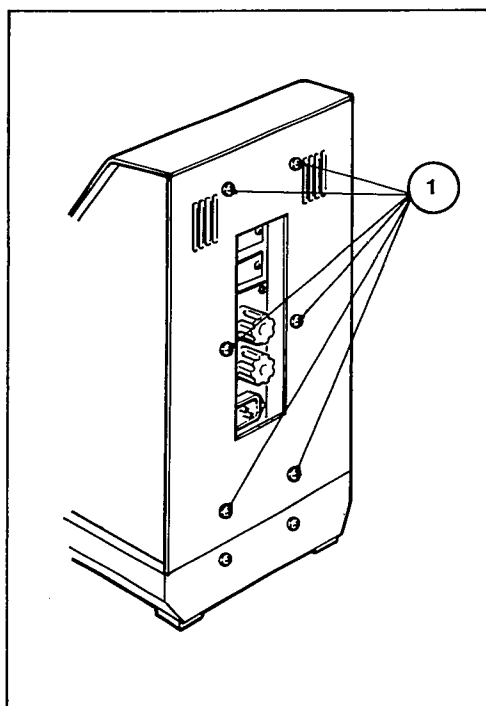

Figure 2.1 Rear Panel Retaining Screws
2. Remove the six rear panel retaining screws, item 1, Figure 2.1.